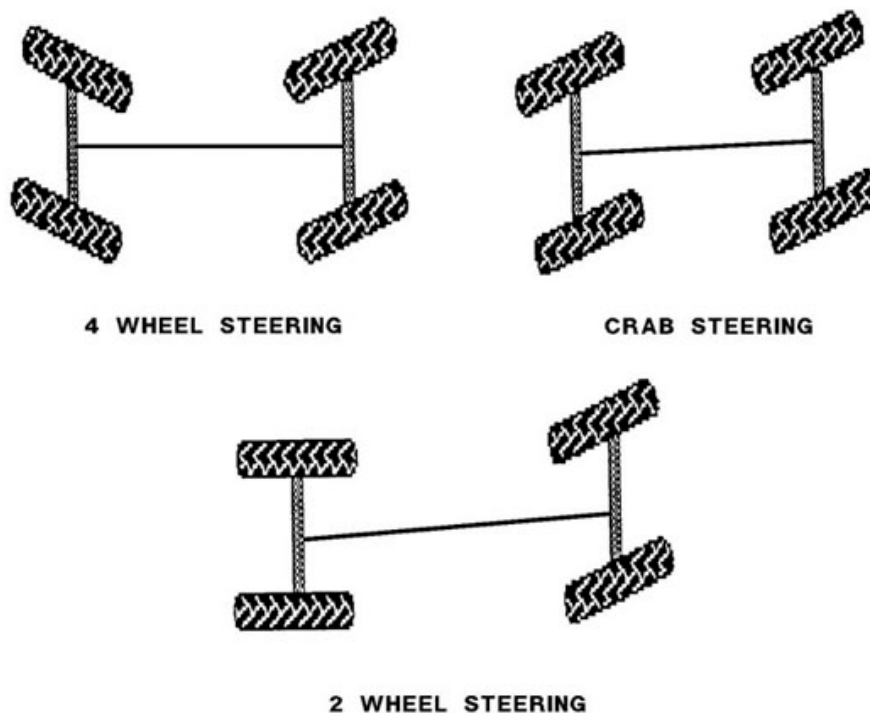

Figure 1-5. Steering modes.
- 3) Four-wheel crab steering (fig. 1-5).